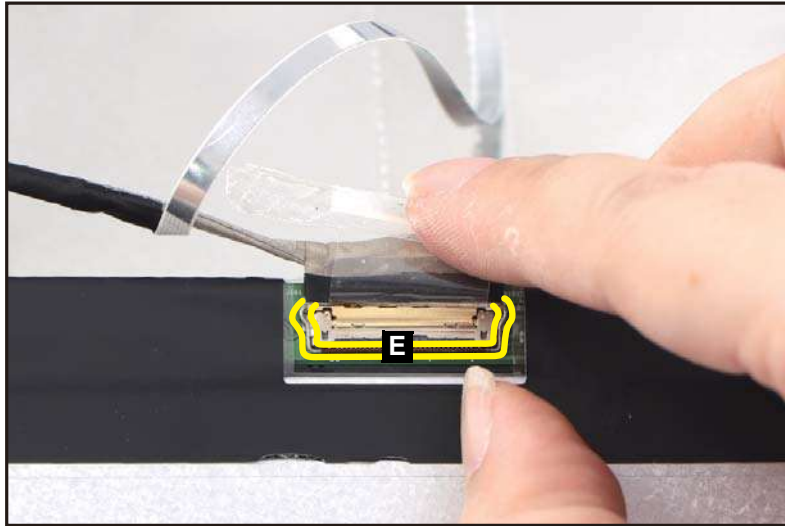

Figure 3-60. LCD Panel Removal
4. Lift the latch (E) securing the LCD cable (Figure 3-60).